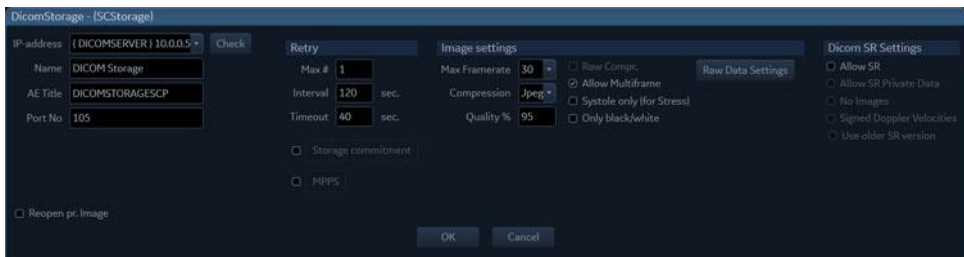

Figure 12-34. DICOM storage properties window
The *Properties* window for the selected DICOM device is displayed (Figure 12-34).
6. When configuring the DICOM storage device, the following image settings are recommended to enter in the *Properties* window (Figure 12-34):
2. Select the **Connectivity** category and **Dataflow** subgroup. The *Dataflow* sheet is displayed (see Figure 12-34).